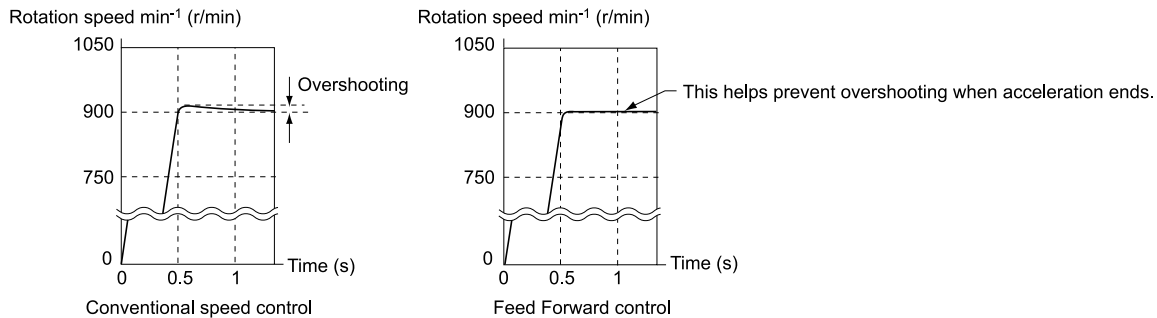
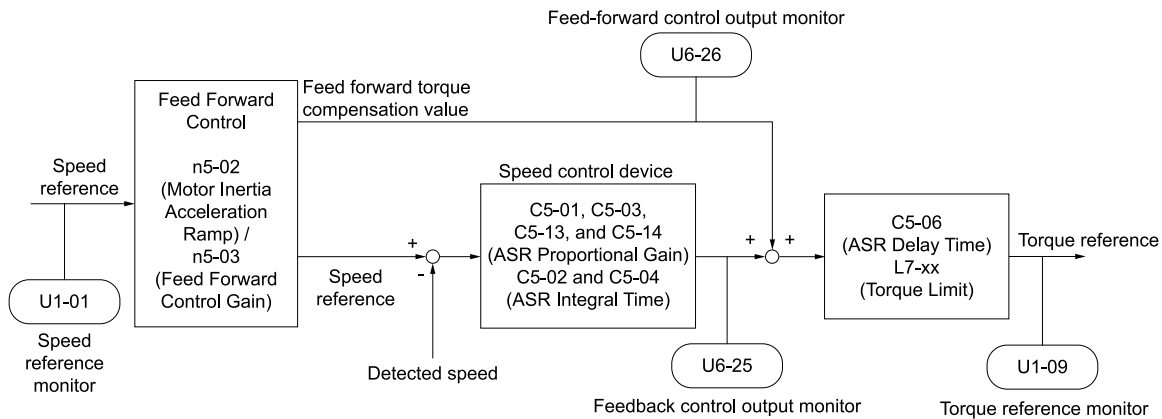

Figure 12.57 Suppress Overshooting with Feed Forward Control
Figure 12.58 Configure Feed Forward Control
Use feed forward control for applications where a high speed control proportional gain setting in *C5-01*, *C5-03*, and *C5-13* [ASR Proportional Gain] would lead to problems with overshoot, undershoot, or oscillation. When you use this function in CLV control, it also helps prevent overshoot. Refer to Figure 12.57. Refer to Figure 12.58 for more information about parameters related to feed forward control.
- Refer to Figure 12.58 and set the parameters related to feed forward control individually.